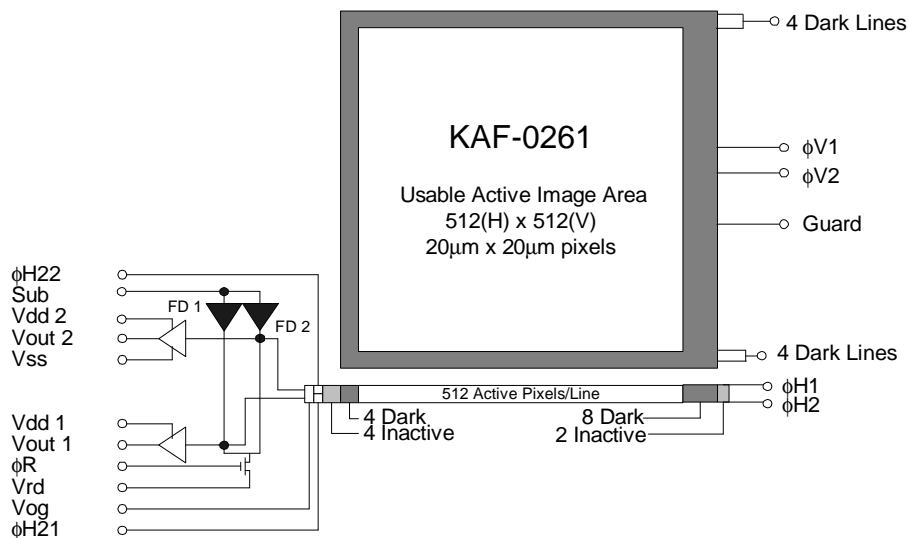

Figure 1 - Functional Block Diagram
- Figure 1 - Functional Block Diagram 3
The KAF-0261E consists of one vertical (parallel) CCD shift register, one horizontal (serial) CCD shift register and a selectable high or low gain output amplifier. (See Figure 1.) Both registers incorporate two-phase buried channel CCD technology. The vertical register consists of $20\mu\text{m} \times 20\mu\text{m}$ photocapacitor sensing elements (pixels) which also serves as the transport mechanism. The pixels are arranged in a 512(H) x 512(V) array; an additional 12 columns (4 at the left and 8 at the right) and 8 rows (4 each at top and bottom) of non-imaging pixels are added as dark reference. Because there is no storage array, this device must be synchronized with strobe illumination or shuttered during readout.